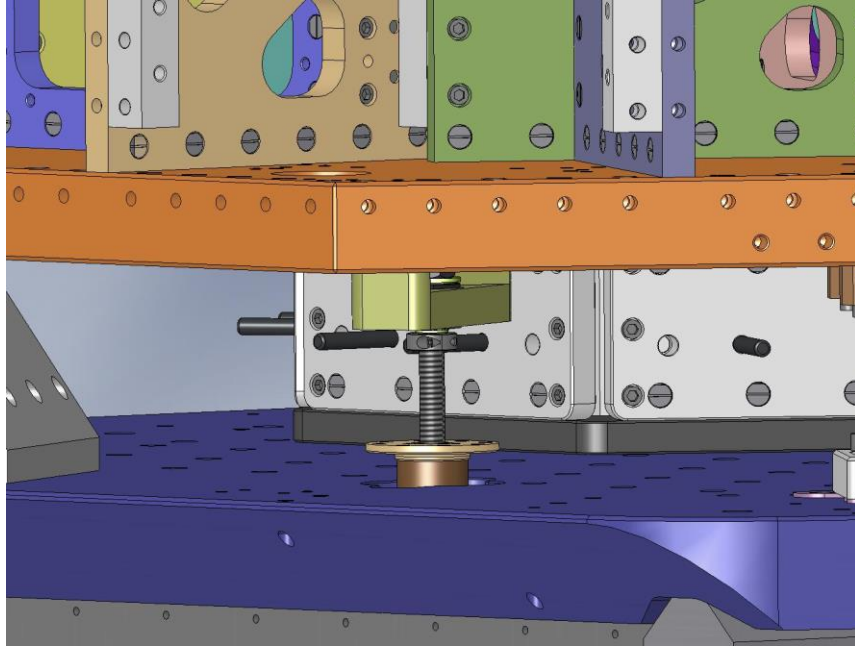

Figure 4.94. The (3) Spring Pull-Down Bases mount inside pockets in the Stage 0 Base.
- Move the (3) bottom parts of the **Spring Pull-Down Assemblies** (above, Figure 4.62) between **Stage 0** and **Stage 1**. Insert the **Spring Pull-Down Bases** (D071307) in the (3) matching pockets in the **Stage 0 Base**, as shown in Figure 4.94.